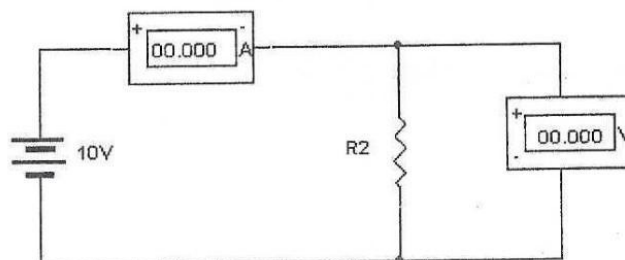

FIG. 1
- A. Wire the circuit of FIG.1 shown below.
- A. Again, wire the circuit of FIG.1 leaving out the voltmeter